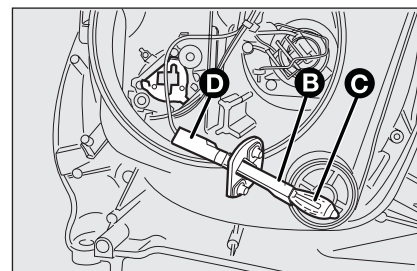

fig. 14
- disconnect the connector **D**-fig. 14;